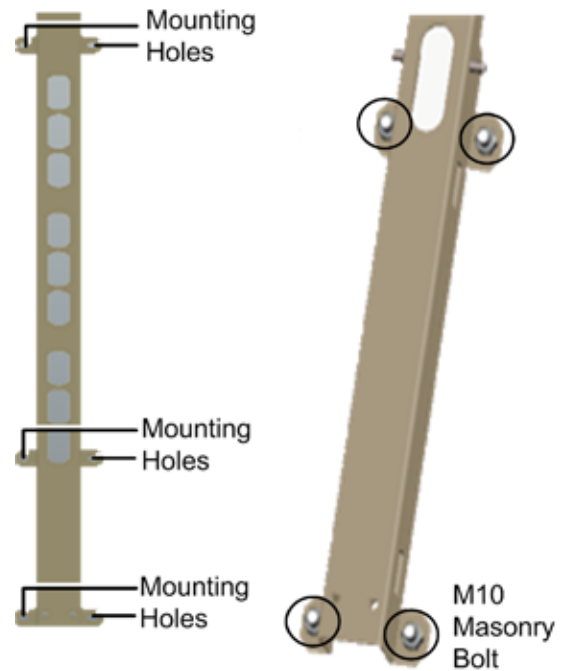

Figure 7. GX Bracket Wall-Mount Option
**Step 1:** Using the mounting bracket top and bottom mounting holes as a guide (see Figure 7), measure and mark the location for drilling the (supplied) M10 masonry bolts (12 diameter) in the wall (six per bracket).
**Step 3:** Using six (M10 x 110) masonry bolts per bracket – secure the mounting brackets to the wall with the protruding M8 nuts facing toward you. See Figure 7.